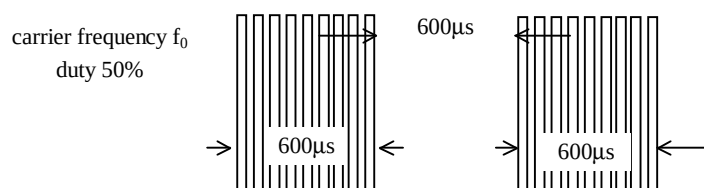

Fig 1. Burst Wave
- (1) Measuring place Indoor without extreme reflection of light.
- (2) Ambient light source... Detecting surface illumination shall be 200±50Lux under ordinary hite fluorescence lamp of no high frequency lighting.
- (3) Standard transmitter ... Burst wave indicated in Fig 1. of standard transmitter shall be arranged to 50mVp-p under the measuring circuit specified in Fig 2.